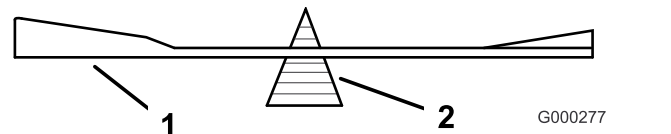

Figure 53
2. Check the balance of the blade by putting it on a blade balancer (Figure 53).
**Note:** If the blade stays in a horizontal position, the blade is balanced and can be used. If the blade is not balanced, file some metal off the end of the sail area only (Figure 53). Repeat this procedure until the blade is balanced.